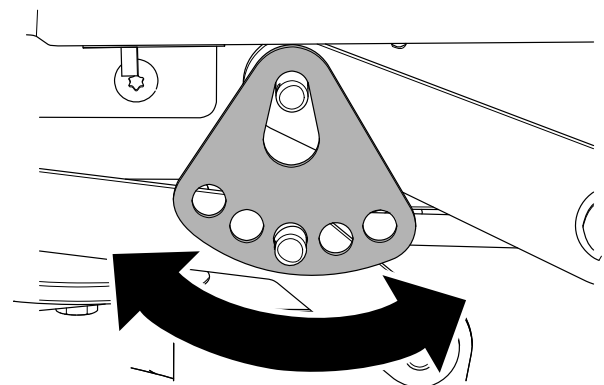

Figure 68
7. Rotate the height-of-cut plate to a different hole so that it supports the weight of the mower deck after you install the plate (Figure 68).
8. Install the washer and hairpin cotter (Figure 68).